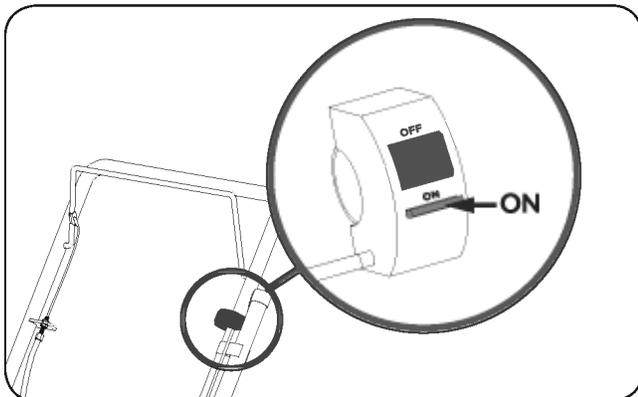

Figure 8
1. Push down the ON button of the engine switch. (See Figure 8)